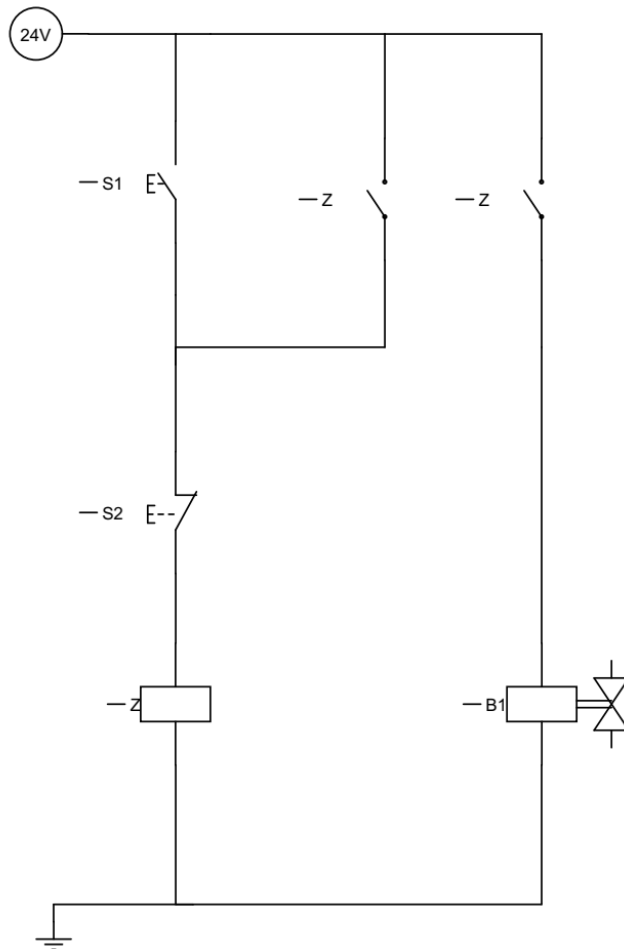

Figure 2.2: Self-holding electrical circuit
8. Replace the current electric circuit to the electrical circuit shown in **Figure 2.2**. Repeat procedure #3 to #7.